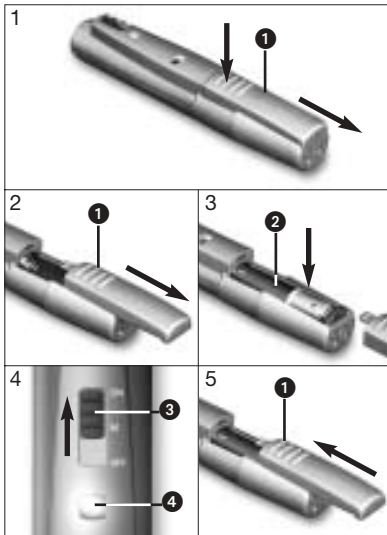

Fig. 2: Inserting the battery.
Refer to fig. 2:
4. Insert the supplied or new battery (2) into the battery compartment as shown in fig. 2.